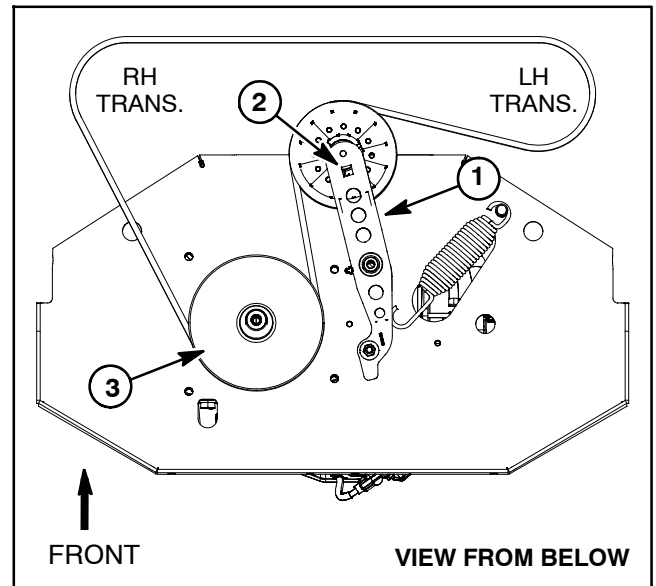

Figure 39
1. Carefully position drive belt around transmission and engine pulleys taking note of routing shown in Figure 39. Take care to not damage the transmission cooling fans during belt installation.